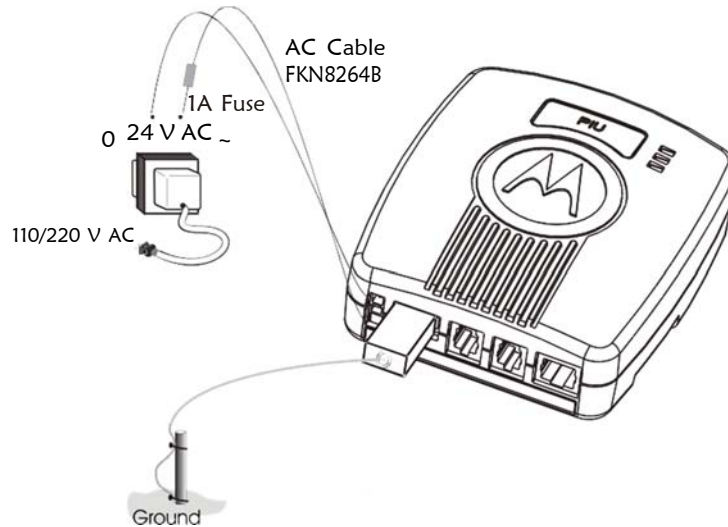

Figure 12
1. Connect the FKN8264B cable to the 24 V AC PWR IN connector as shown in Figure 12.